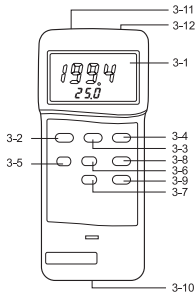

Fig. 1
1. Push the "power off button" (3-2, Fig. 1) to let the instrument power "ON".
2. Determine temperature unit to °C or °F by pushing the " °C/°F Button " (3-4, Fig. 1) Then the display will show the temperature unit of °C or °F.
(3-8, Fig. 1) until the display show the marker "T1" display will show the temperature reading that measured from the probe.
- a. Insert second temperature probe plug into the "T1 Socket" (3-11, Fig. 1).
- b. Insert second temperature probe plug into the "T2 Socket" (3-12, Fig. 1).
- c. The main display (upper display) will show the temperature reading of the first probe (T1) & the lower display will show the temperature reading of second probe (T2), push the "Function Button" (3-8, Fig. 1) until "T1" appears on the display.
- d. The main display (upper display) will show the temperature reading of second probe (T2) & the lower display will show the temperature reading of the first probe (T1), push the "Function Button" (3-8, Fig. 1) until "T2" appears on the display.
- e. The main display (upper display) will show the differential temperature reading of the first and second probe (T1-T2) and the lower display will show the temperature reading of the first probe (T1), push the "Function Button" (3-8, Fig. 1) until "T1-T2" appears on the display.
1. During the measurement. Push the "Data Hold Button" (3-3, Fig. 1) will hold the display values & LCD will show the "D.H" marker.
1. The DATA RECORD function displays the maximum, and minimum readings. To start the DATA RECORD function, press the "Record Button" (3-6, Fig. 1) once. "REC" will appear on the LCD display.
- a. Push the "CALL Button" (3-7, Fig. 1) once, then the "Max" marker along with the maximum values will appear on the LCD display.
When the left corner of LCD display show "LBT", it indicates a normal battery output of less than 6.5V – 7.5V. It is necessary to replace the battery. However, in—spec measurement may still be made for several hours after low battery indicator appears before the instrument becomes inaccurate. Slide the Battery Cover (3-10, Fig. 1) away from the instrument and remove the battery. Replace with 9V battery (heavy duty type) and replace the cover. Make sure the battery cover is secured after changing the battery.